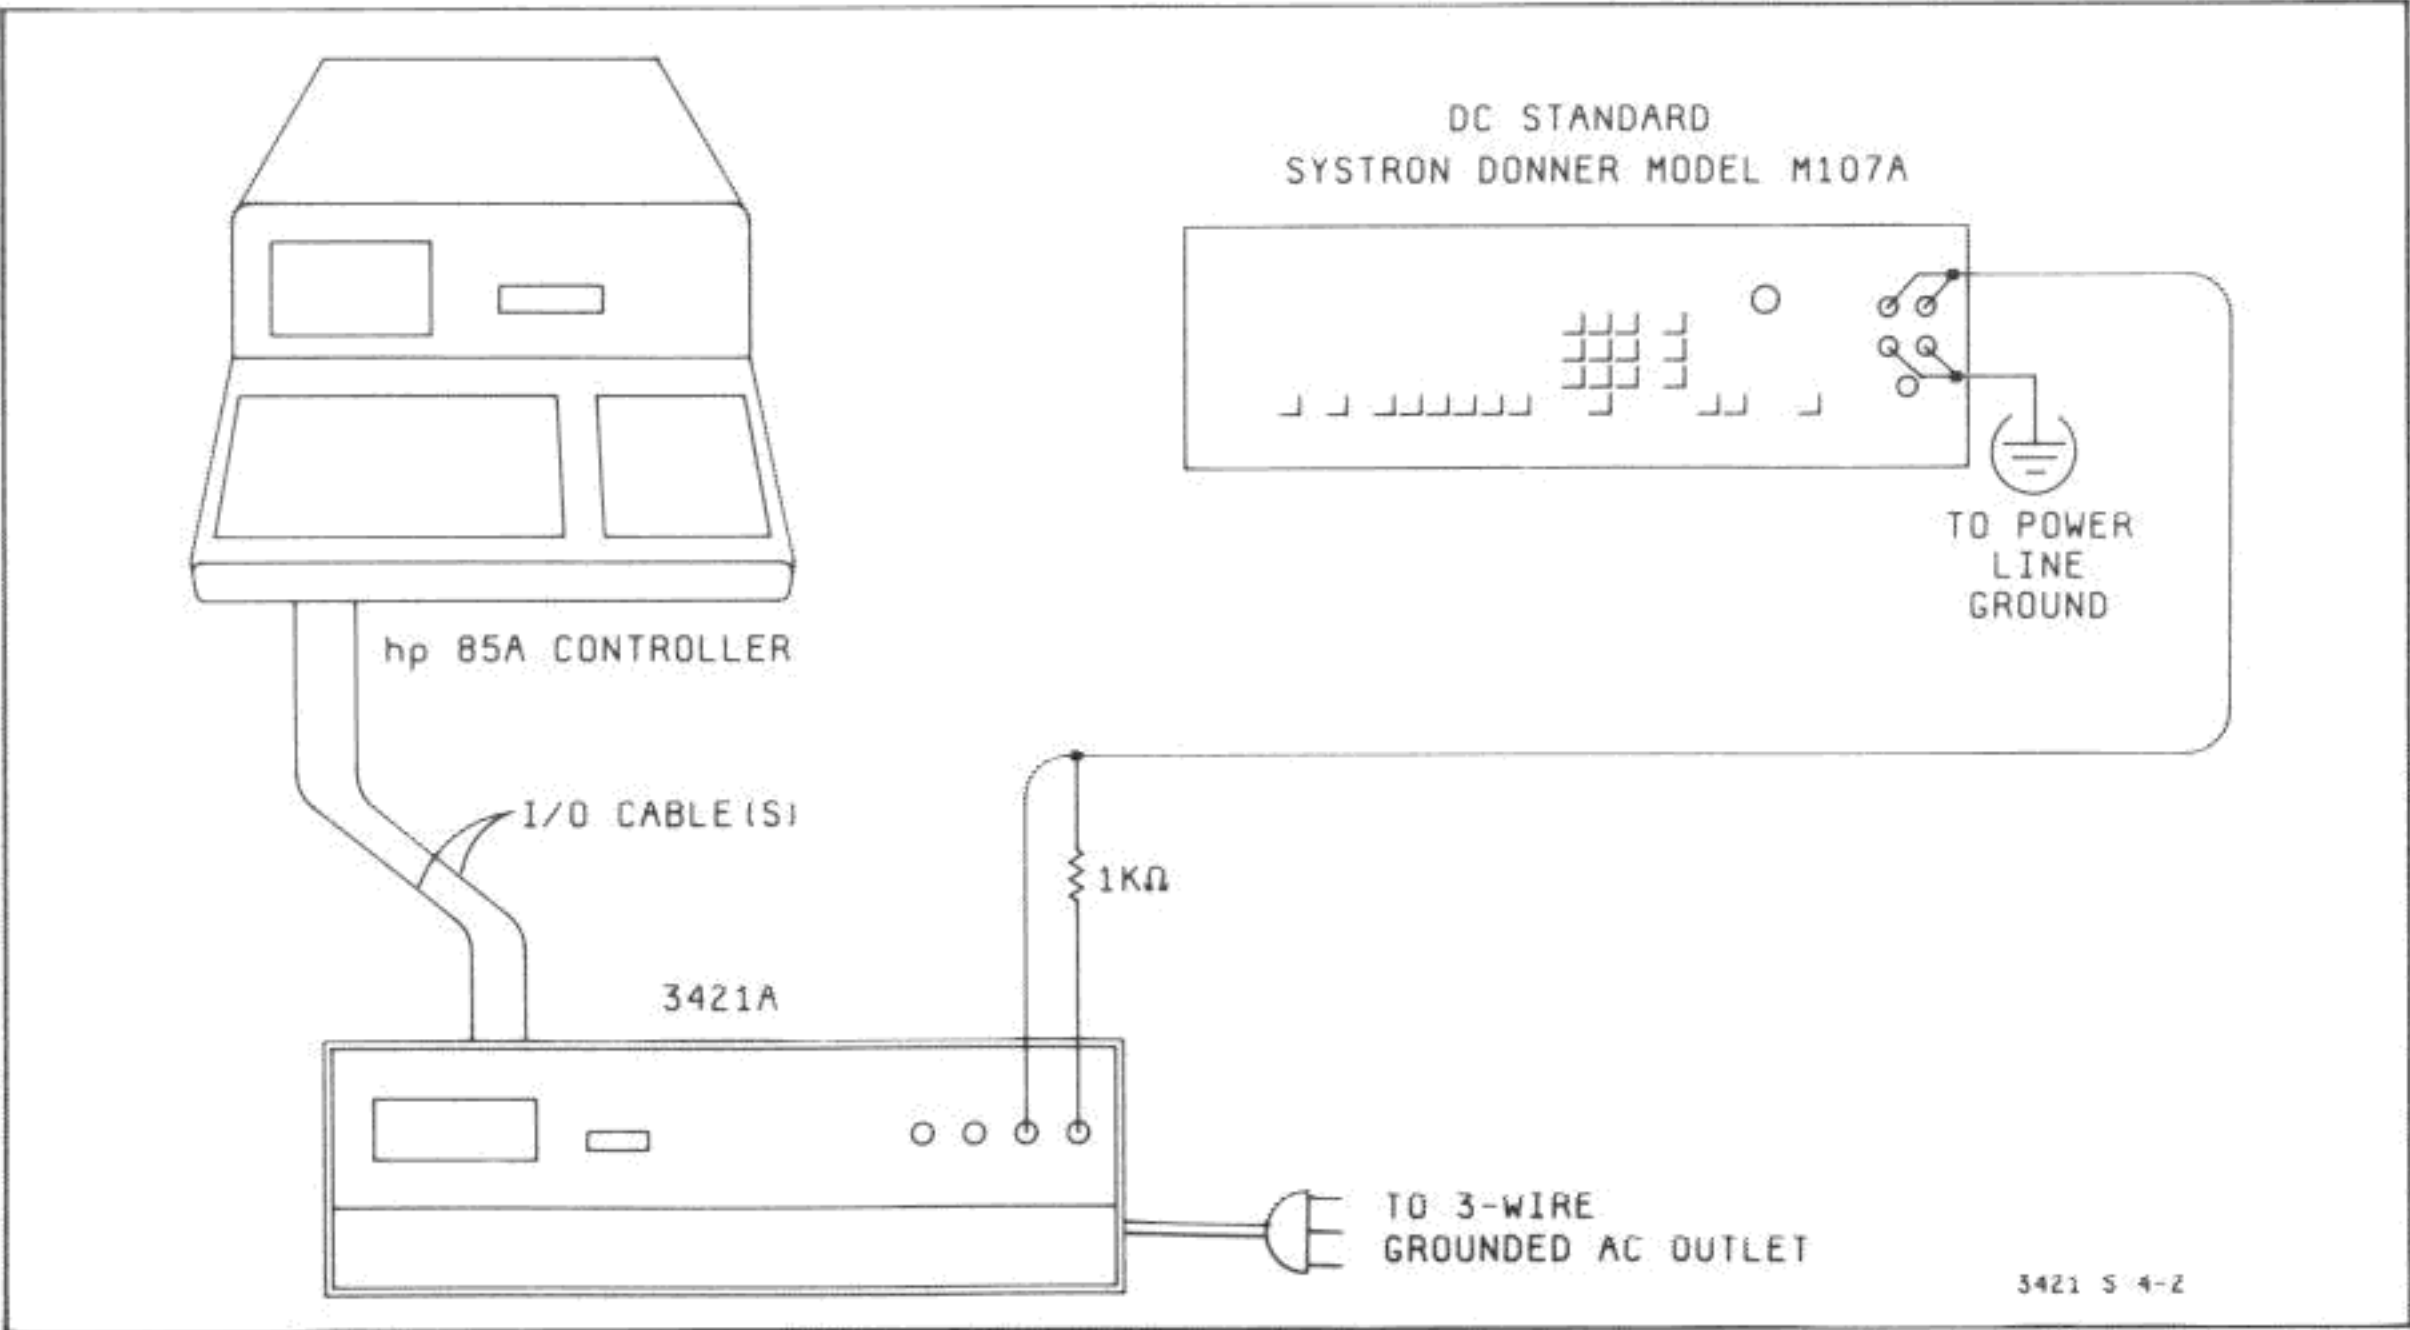

Figure 1-4-2. DC Common Mode Rejection Test
4. With the output of the dc volts standard turned off, connect the standard to the HP 3421A as shown in Figure 1-4-2.